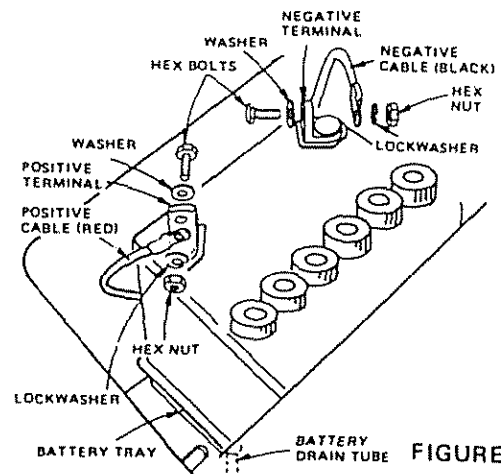

FIGURE 17
- Connect each end of the RED cable to the POSITIVE (+) terminals of each battery (taking care not to short against chassis). (Fig. 17)